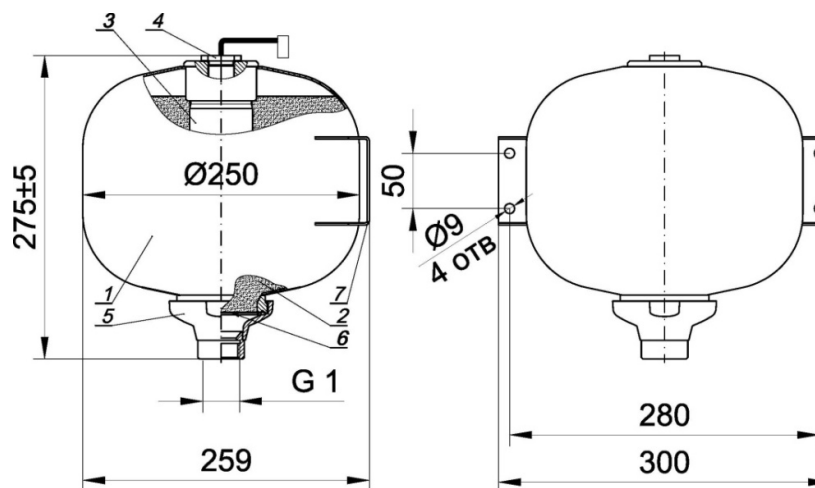

Fig.1 Design of module «Buran-8STT».
4.1. Module (Fig. 1) corresponds a hermetic structure consisting of a welded steel canister 1 filled with fire extinguishing powder 2, a gas-generating element 3, an electrical actuator 4, a nozzle-sprayer 5 and a distractible grooved membrane 6. The distractible membrane is tightly pressed to the canister by the nozzle-sprayer. There is a thread G 1 on the outlet port of the nozzle-sprayer for fixing a sprayer. The sprayer can be connected to the canister through a leading tube. The electrical actuator can be equipped with a connector of various types.
6.1. Module is installed inside the protected compartments and mounted on the wall or solid vertical construction elements. The mounting elements shall withstand a static load in vertical direction of not less than 60 kg and dynamic load during operation of not less than  $95 \text{ kgm}^2\text{sek}^{-2}$ . The layout of the openings for the bracket fastening is shown in Fig. 1.